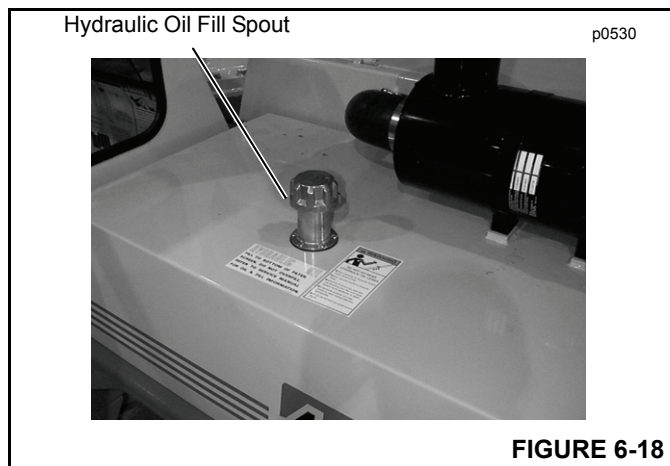

FIGURE 6-18
3. Remove the hydraulic fill cap (Figure 6-18).